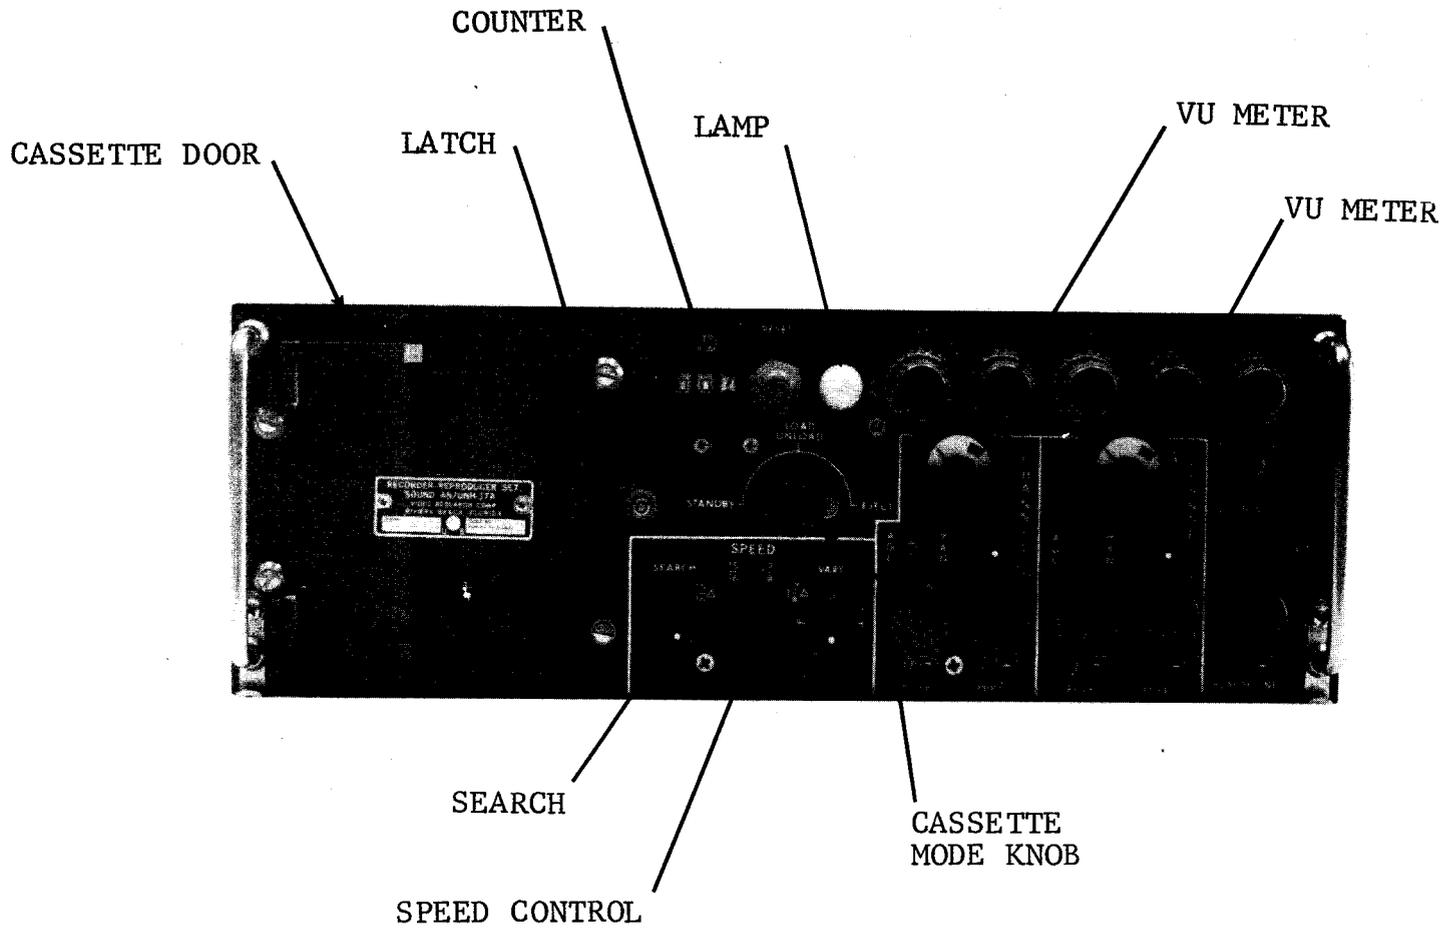

FIGURE 3-1
b. SEARCH knob is used only in FAST FWD and REWIND modes of operation. For normal FAST FWD and REWIND operation, the SEARCH knob should be fully clockwise. (refer to Figure 3-1.)
Operating controls, connectors and indicators are listed in Table 3-1., and illustrated in Figure 3-1.
The following section provides a detailed step-by-step procedure for operating the AN/UNH-17A. Refer to Figures 3-1. and 3-2. for location of referenced controls. Instructions apply to either mobile or fixed operation.
CONTROL, INDICATOR OR CONNECTOR FIGURES 3-1, 3-2	FUNCTION